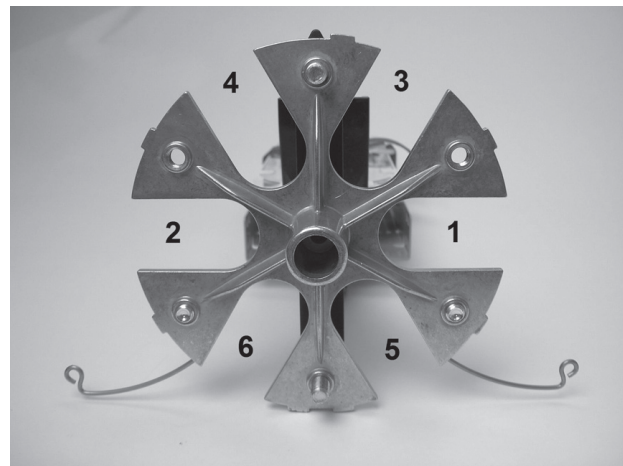

Fig 5
Note: The smaller SMB and lug can be used on most cables, but cables with large strength members may require the large SMB and lug (i.e. 144 LBT cable). The large SMB should not be used in the top two ports (3 & 4) of the metal frame (Fig. 5).
4. Determine which port of the metal frame the cable will be installed (Fig. 5). Once the cable termination hardware is installed onto the cable sheath, the assembly slides into the metal frame. Observe the orientation needed with the cable retention hardware to allow easy installation without twisting the cable.
Note: If grounding is required, the ground wire should be positioned on the cable so it clears the tray support tower (ports 3, 4, 5 or 6). The black plastic tray support tower is on the other side of the metal frame above (Fig. 5).